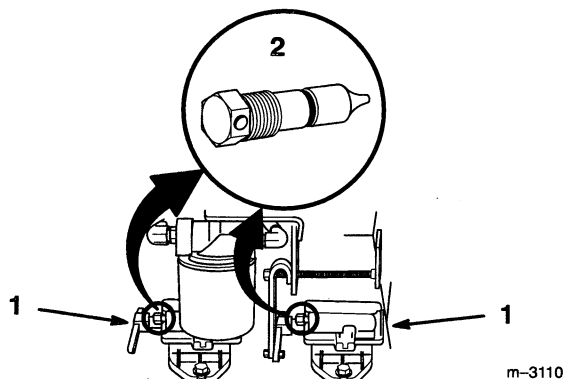

Figure 5
1. Clean area of hydraulic pumps around existing by-pass valves (Fig. 5).
2. Unscrew existing by-pass valves (Fig. 5). Discard valves.